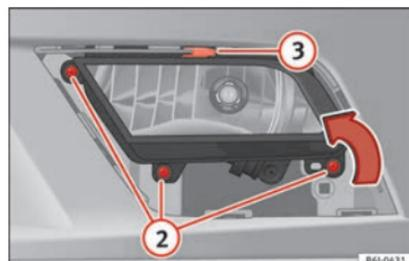

Fig. 102 Front fog light.
- Remove the 3 bolts » **Fig. 102** ② to remove the fog light.
- Remove the metal clip situated on the upper part of the fog light by pulling towards the exterior of the vehicle » **Fig. 102** ③.